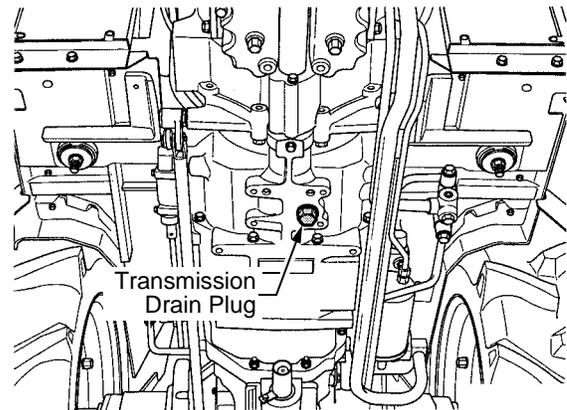

Figure 61
- Locate the drain plug on the bottom of the transmission. Place a suitable container below the drain plug to collect the old oil. See Figure 61.